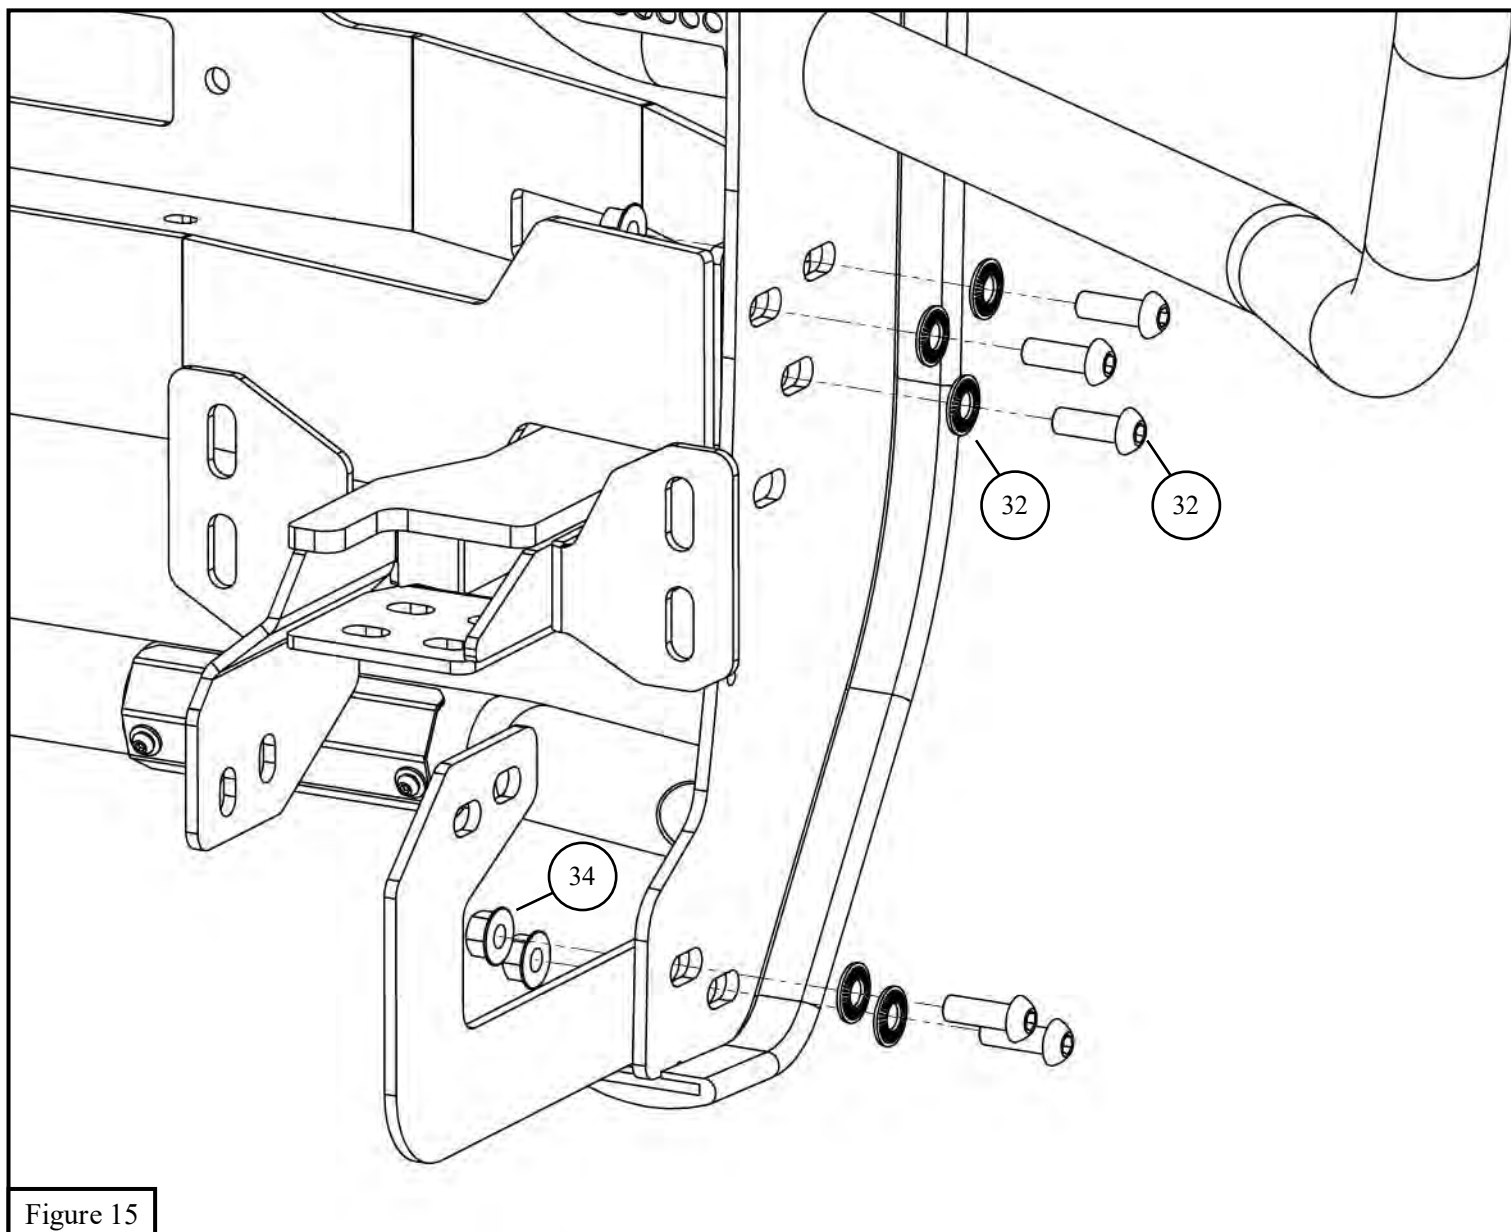

Figure 15
28. Loosely install the grille guard assembly (**item 17**) onto the winch tray and brackets using the black M12 hardware (**items 32-34**). See **Figure 15**.
33. Use the zip ties (**item 35**) to hold the sensor harness extenders in place.